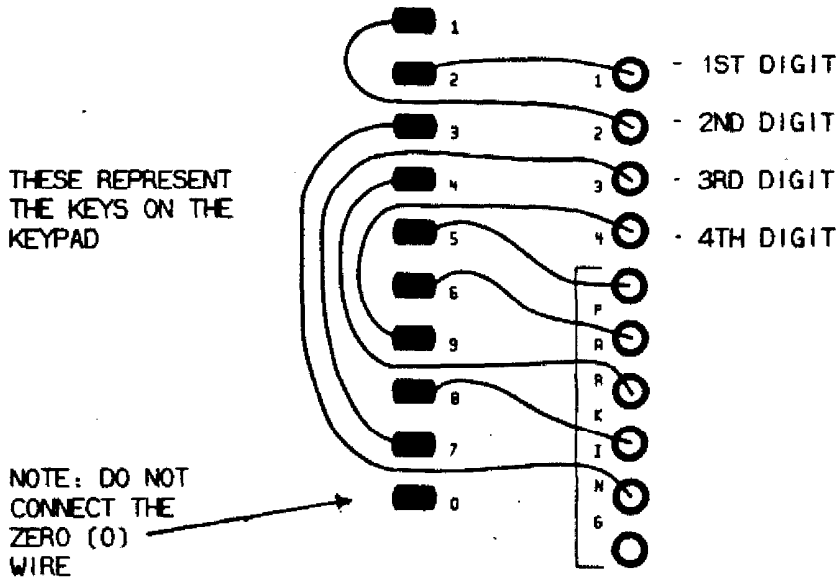

FIGURE 6: CODE SELECTION.
A code is selected with the white leads and the socket holes number 1 to 4 on the back of the keypad circuit board. To select a 4-digit code, connect the white lead numbered with your first code digit to socket hole 1, the second digit to socket hole 2, etc. NOTE: Use only digits 1 through 9. Do not connect the zero (0) wire on the RP-1005. (Figure 6 shows code 2179 selected as an example.) Connect all remaining white leads in the socket holes labeled PARKING. Code selection can be changed at any time by changing the order in which these white leads are connected to sockets 1 through 4 and PARKING.